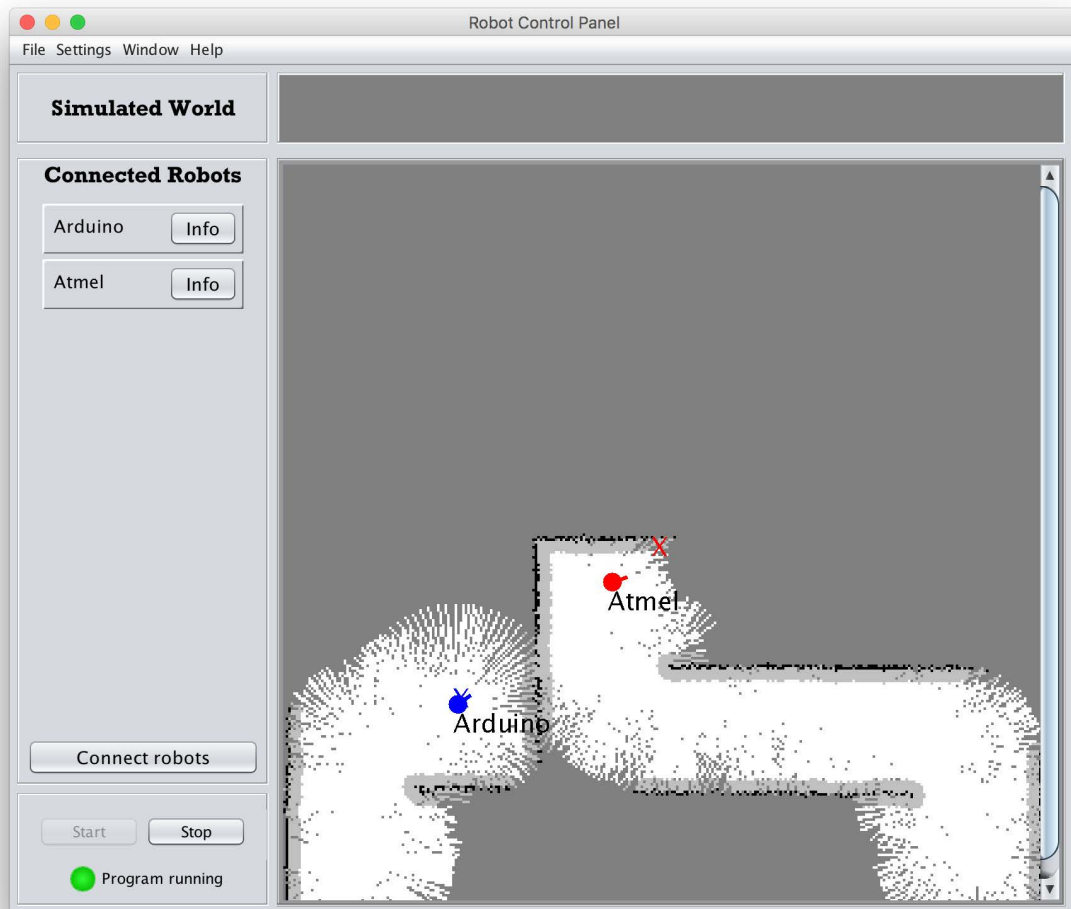

Figure 2.5: Real-time map plotting
2. Connected Robots - This panel will be updated with the connected robots (see Figure 2.5). Clicking the "More info" button will open up the Robot info window.
See Figure 2.5 for an illustration of mapping in progress, and a list that describes the colours in the map.